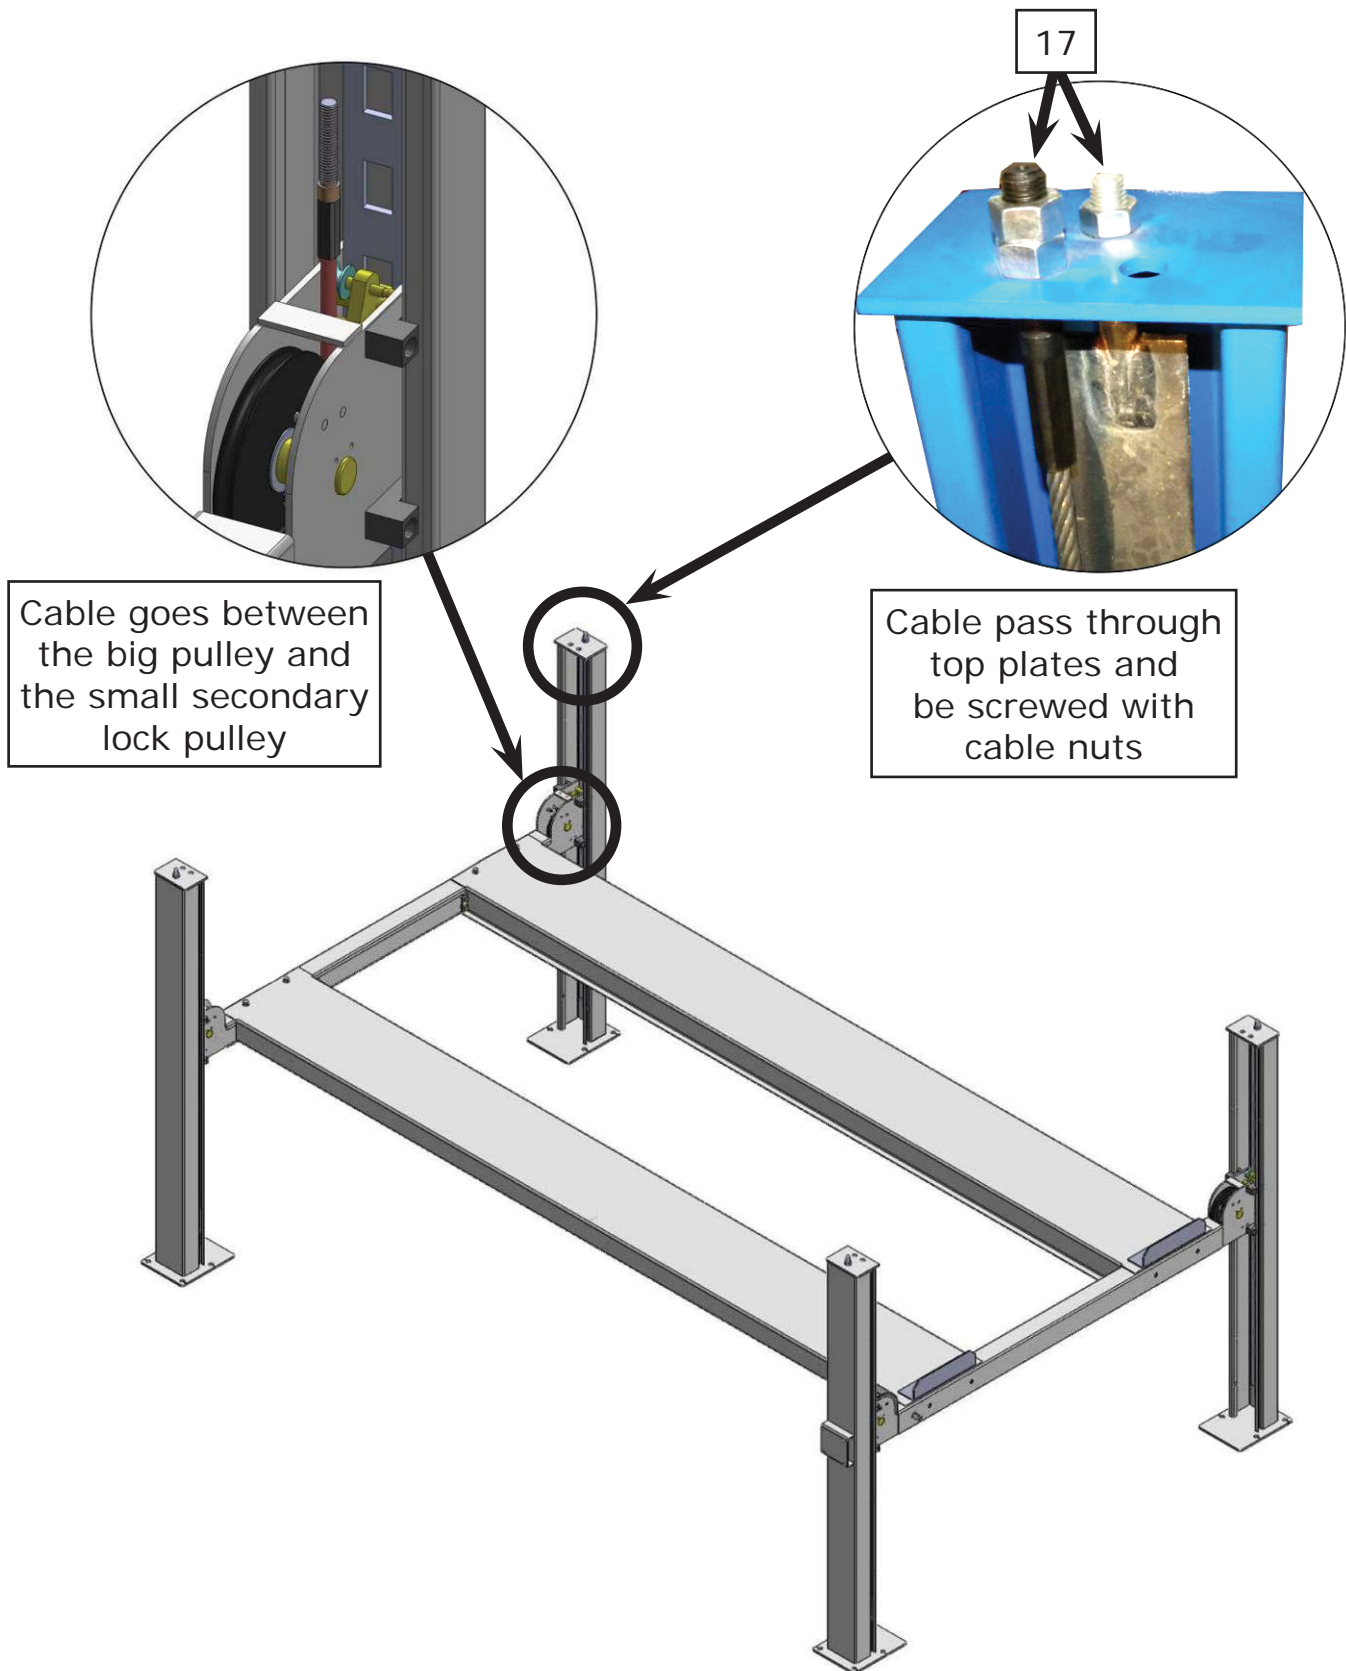

Fig. 19
2. The cable goes through the cross beam to the top plates on the columns (See Fig. 19).